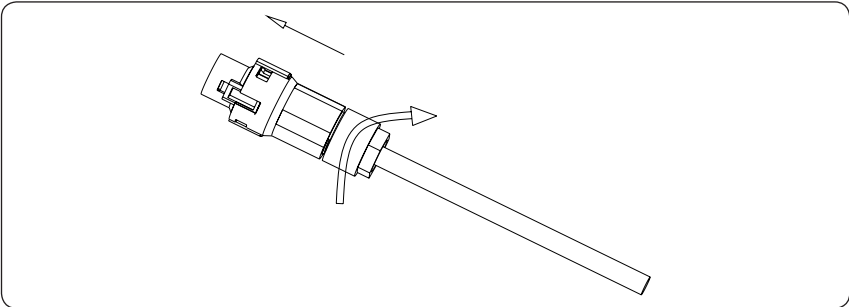

Figure 4-16
4) According to the arrow direction push the threaded sleeve to make it connected with the AC terminal head and then rotate the cable gland clockwise to lock it. As shown in Figure 4-16: